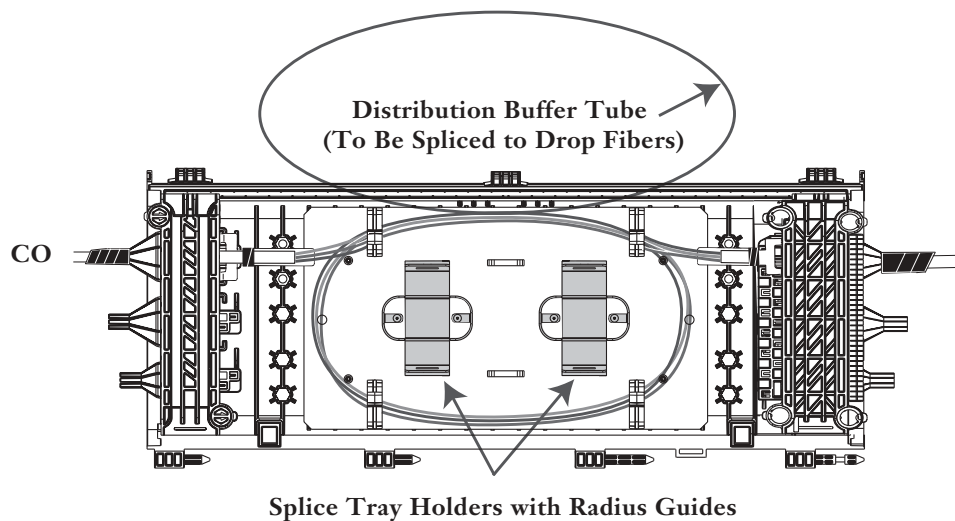

Figure 12 — Secure Cable Slack
- Step 3** Loop unused express buffer tube(s) in the buffer tube slack storage area as shown in Figure 12 and secure in the routing clips.